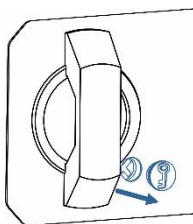

Fig. 5.2
- Take out the cover for emergency opening (5) (Fig.5.2).